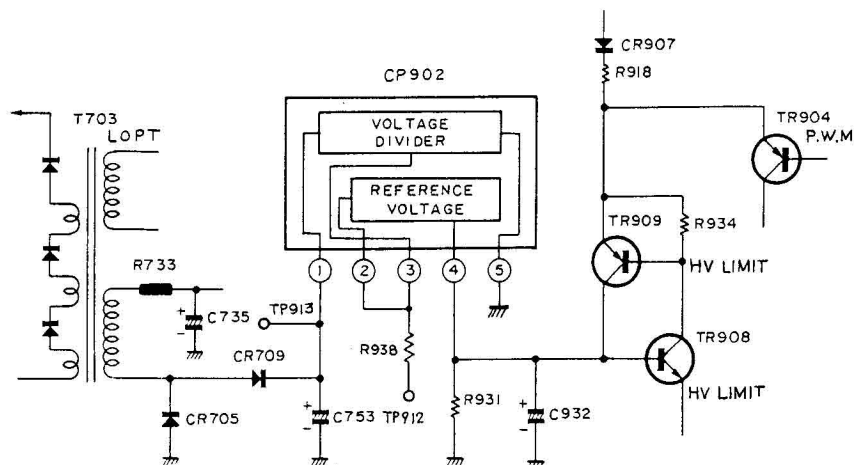

Fig. 4 HV (EHT) limit circuit
Fig. 4 shows this circuit, adopted in NP6C chassis.
- 1) Connect between TP-912 and TP-913 with a short link. – Fig. 4